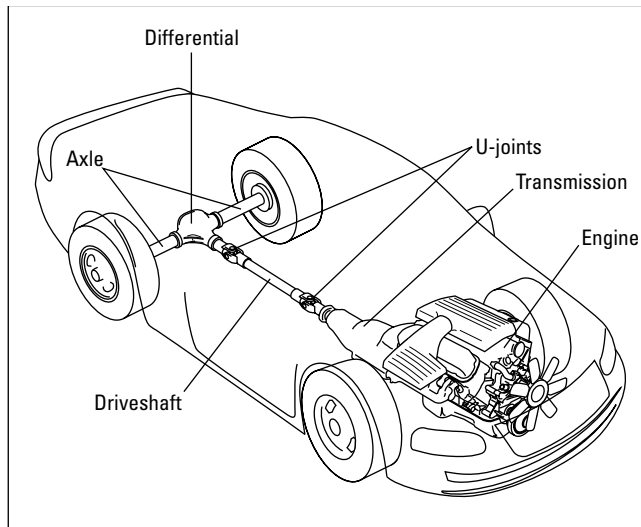

Figure 4-6: Cutaway view of a car with rear-wheel drive.
- To the rear of the crankshaft is the *transmission*, called a *transaxle* on vehicles with *front-wheel drive*. If your vehicle has *rear-wheel drive* (see Figure 4-6), the transmission is under the floor ahead of the front